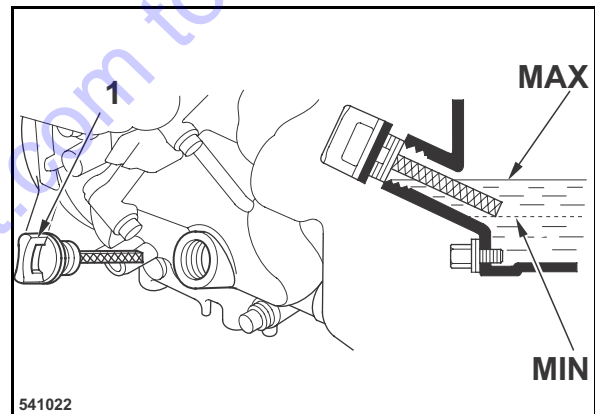

Fig. 33
- Clean the area around the oil dipstick (1) (Fig. 33).